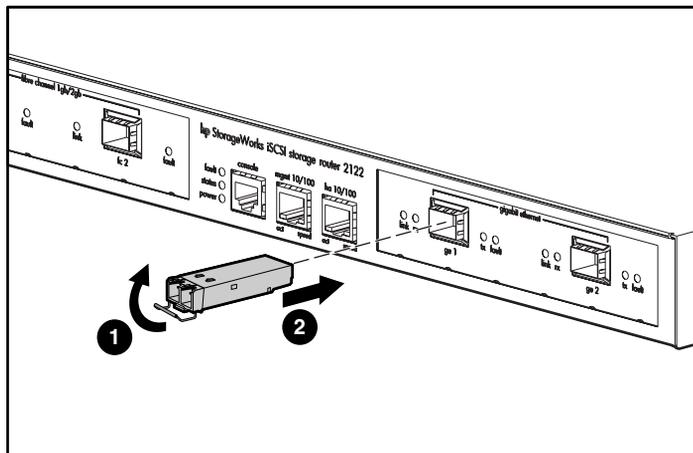

Figure 22: Inserting a bale clasp SFP module into a port
2. Line up the SFP module with the port and slide it into the port (see Figure 22).